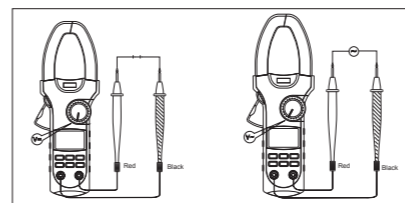

Figure 3
A. Measuring DC/AC (See Figure 3)